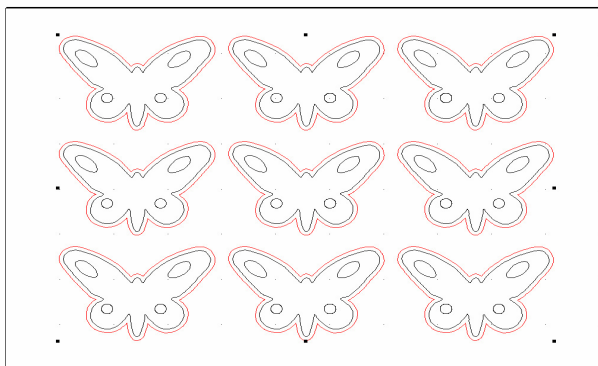

Figure 51
- 5 Click **OK** to fill the page with the image, as shown in figure 51.